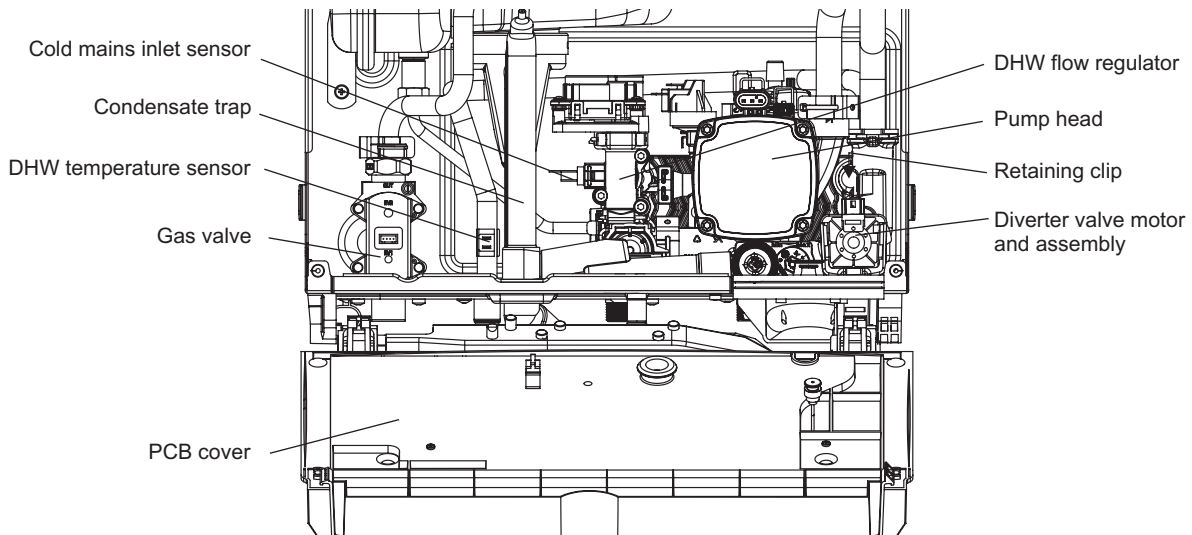

Fig. 7.3
### 7.11 DHW TEMPERATURE SENSOR - Fig. 7.3
1. The DHW sensor is positioned in the hot water outlet pipe to the left of the flow switch, see Fig. 7.3. Unplug the two connections and unclip the sensor from the pipe.
### 7.12 COLD MAINS INLET SENSOR - Fig. 7.3
### 7.13 DHW FLOW REGULATOR VALVE - Fig. 7.3
### **7.18 PUMP HEAD - Fig. 7.3**
### **7.22 DIVERTER VALVE MOTOR - Fig. 7.3**
### **7.23 DIVERTER VALVE CARTRIDGE - Fig. 7.3**